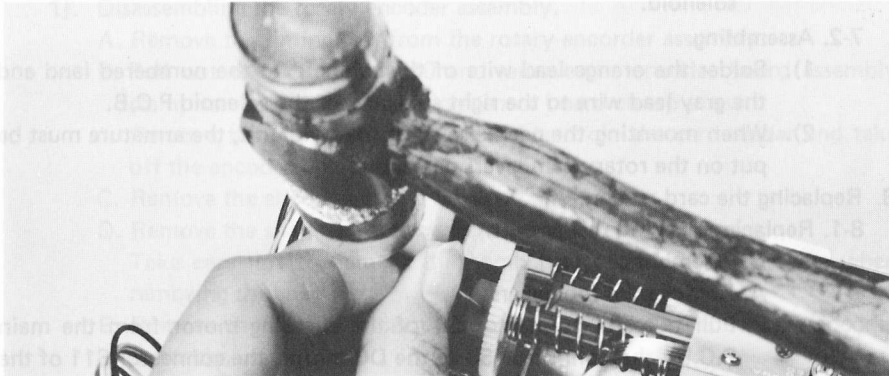

Fig. 92
B. Pull out the spring pin BW2 of the gear Z53. (Fig. 92)